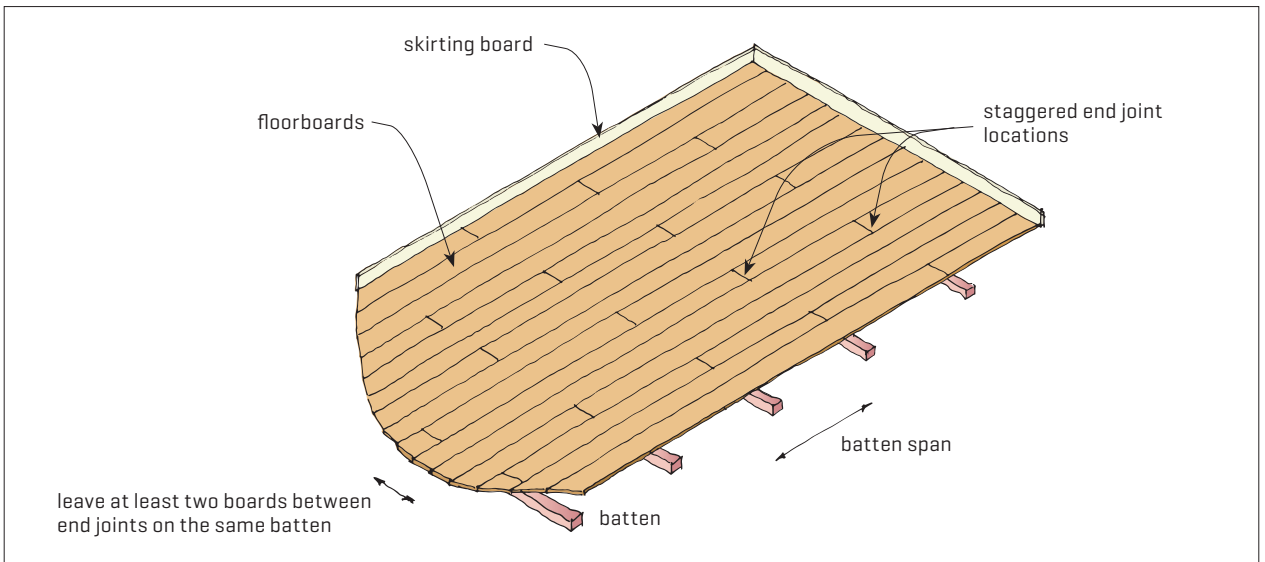

Figure 2. Randomly staggered end joints.
- Lay boards with randomly staggered end joints [Figure 2].